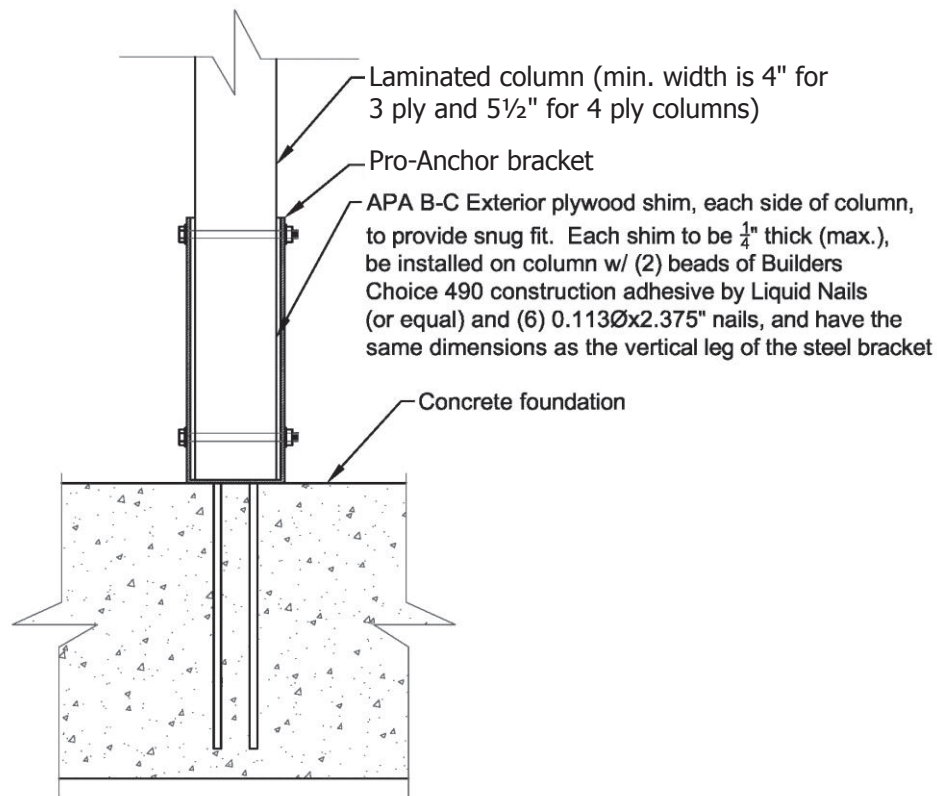

Figure 9.2: Pro-Anchor Plus Shim Detail
The brackets are constructed with $\frac{1}{4}$ " structural steel plate with a minimum yield strength of 40 ksi, and $\frac{1}{4}$ " fillet welds of E70XX electrodes. Each assembled bracket has a proprietary powder coat finish. The inside dimension of the brackets allow for an $\frac{1}{8}$ " total tolerance between the steel bracket and wood column. Glued laminated columns are acceptable; however, appropriately sized wood shims need to be added on both sides of the pocket to provide a snug fit as shown in Figure 9.2 ($\frac{1}{8}$ " total tolerance is acceptable). **The shim should be APA B-C Exterior plywood (or equivalent), no more than $\frac{1}{4}$ " thick, and have the same dimensions as the vertical leg of the bracket. The shim should be fastened to the column with 2 beads of Builders Choice 490 construction adhesive by Liquid Nails (or equal) and (6) 0.113"x2.375" nails.**